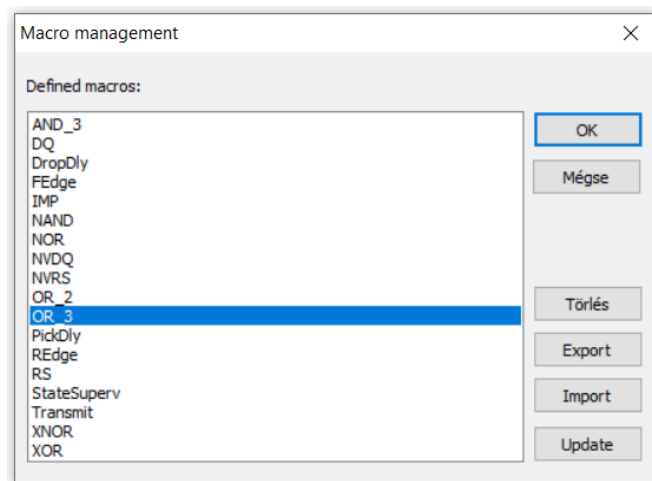

Figure 6-7 Example for macro selection
- The example needs OR connection of three signals (two binary inputs and the DLD function output). This can be achieved using two OR gates, or simply using a pre-defined macro clicking the icon , then selecting from the list of factory-defined macros according to Figure 6-7.
For the most common protection tasks Protecta prepares “macros”, which can be applied by the user in the graphic equations. The details are hidden from the user, which promotes the readability of the defined equations. Examples for factory defined macros were shown in Figure 6-7. Additionally, basic logical blocks like AND/OR gates are available with up to 8 inputs in the basic factory configuration. The details of macros are described below.
In the Macro management window (Figure 6-7) the user can execute multiple operations with compiled macros. “Export” means saving the selected macro in a file for application in other configurations, while “Import” means that a ready-made macro stored in a file can be imported to the active configuration’s list of available macros. It is also possible to update the available macro list based on a selected folder which contains macros. Unused macros will be updated, while new macros will be loaded after clicking the “Update” button and selecting the intended folder. The edited and imported macros must be generated by clicking on the “Generate” button on the toolbar, and then saved in the configuration file. The location of this file is shown on the figure below.